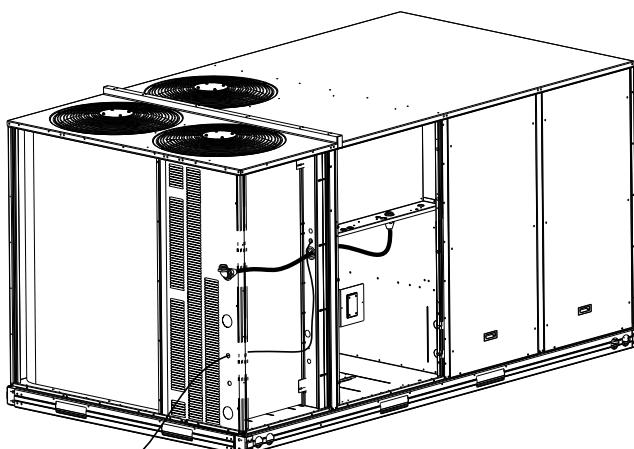

Fig. 46 — Thermostat Wire Routing
Pass the thermostat control wires through the bushing on the unit end panel. Route the wire through the snap-in wire tie and up to the web bushing near the control box. Route the wire through the bushing and into the bottom left side of the control box after removing one of the two knockouts in the corner of the box. Using a connector at the control box to protect the wire as it passes into the control box, pull the wires over to the terminal strip at the lower left corner of the Integrated Staging Control (ISC) Board. Use the connector at the control box and the wire tie to ensure that the thermostat wire is tight and will not be damaged by contact with the condenser coil. See Fig. 46.
1. Route the humidistat 2-conductor cable (field-supplied) through the bushing in the unit's louvered end panel (see Fig. 46).
4. Use the connector and the wire tie to reduce any slack in the humidistat cable to ensure that it will not be damaged by contact with the condenser coil (see Fig. 46).